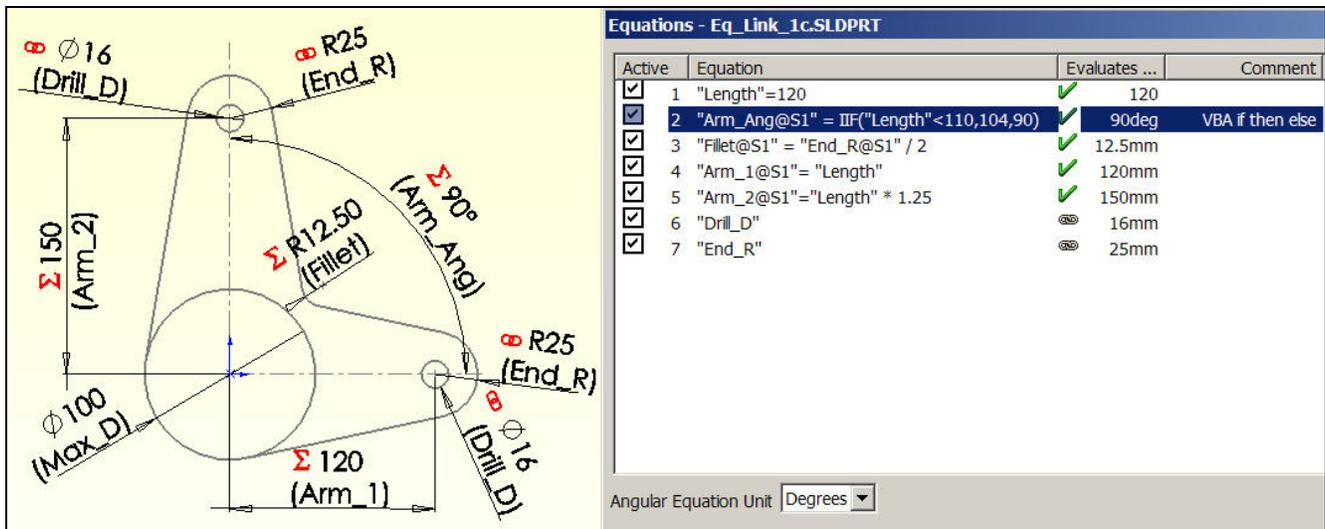

Figure 11 Original configuration of the sketch
The remainder of the final geometry construction (found in Figure 11) begins by locating another drill hole on the second centerline at **Arm\_Ang**. The design intent calls for this hole to move with the second centerline and to be the same size as the first drill hole:
8. Where the two tangent lines cross, add a fillet, name its dimension **Fillet**, and use **Add Equation** to set its value to half the radius **End\_R**. See Figure 11 for the starting sketch.